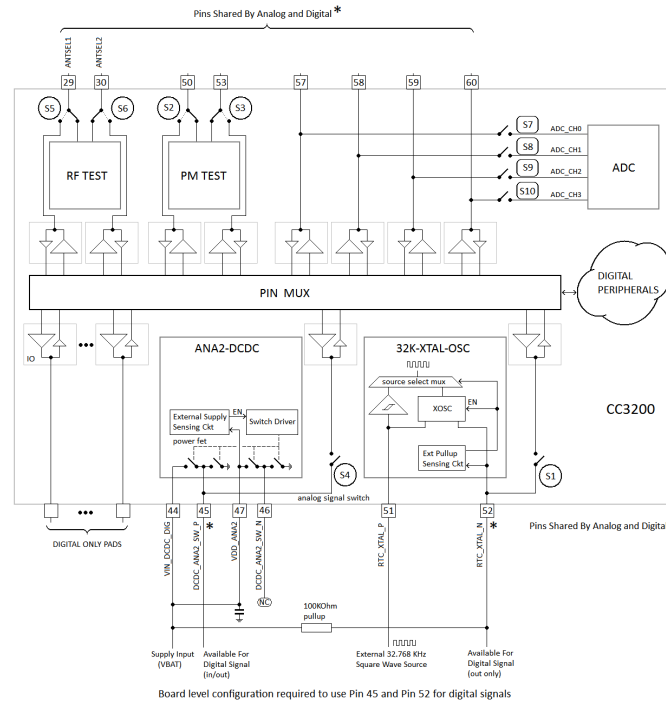

Figure 3-2. Board Configuration to Use Pins 45 and 52 as Digital Signals
- (1) LPDS mode: The state of unused GPIOs in LPDS is input with 500 kΩ pull-down. For all used GPIOs, the user can enable internal pulls, which would hold them in a valid state.
- (2) Hibernate mode: The CC3200 device leaves the digital pins in a Hi-Z state without any internal pulls when the device enters hibernate state. This can cause glitches on output lines unless held at valid levels by external resistors.
- (3) To minimize leakage in some serial flash vendors during LPDS, TI recommends the user application always enable internal weak pull-downs on FLASH\_SPI\_DATA and FLASH\_SPI\_CLK pins.
- (4) This pin has dual functions: as a SOP[2] (device operation mode), and as an external TCXO enable. As a TXCO enable, the pin is an output on power up and driven logic high. During hibernate low-power mode, the pin is in a high impedance state but pulled down for SOP mode to disable TCXO. Because of SOP functionality, the pin must be used as output only.
- (5) Higher leakage current from the onboard serial flash can occur due to floating inputs when the device enters Hibernate mode. See reference schematics for recommended pull-up and pull-down resistors.
- (6) For details on proper use, see Section 3.2, Drive Strength and Reset States for Analog-Digital Multiplexed Pins.
- (7) This pin is one of three that must have a passive pullup or pulldown resistor on board to configure the chip hardware power-up mode. Because of this reason, if this pin is used for digital functions, it must be output only.
- (8) This pin is reserved for WLAN antenna selection, controlling an external RF switch that multiplexes the RF pin of the CC3200 device between two antennas. These pins should not be used for other functionalities in general.
- (9) Device firmware automatically enables the digital path during ROM boot.
- (10) Pin 45 is used by an internal DC-DC (ANA2\_DCDC) and pin 52 is used by the RTC XTAL oscillator. These modules use automatic configuration sensing. Therefore, some board-level configuration is required to use pin 45 and pin 52 as digital pads (see Figure 3-2). Because the CC3200R device does not require ANA2\_DCDC, the pin can always be used for digital functions. However, pin 47 must be shorted to the supply input. Typically, pin 52 is used for RTC XTAL in most applications. However, in some applications a 32.768-kHz square-wave clock might always be available onboard. In such cases, the XTAL can be removed to free up pin 52 for digital functions. The external clock must then be applied at pin 51. For the chip to automatically detect this configuration, a 100K pull-up resistor must be connected between pin 52 and the supply line. To prevent false detection, TI recommends using pin 52 for output-only functions.
- (11) VDD\_FLASH must be shorted to Vsupply.
- (12) To use the digital functions, RTC\_XTAL\_N must be pulled high to Vsupply using 100-KΩ resistor.
- (13) This pin is shared by the ADC inputs and digital I/O pad cells. Important: The ADC inputs are tolerant up to 1.8 V. On the other hand, the digital pads can tolerate up to 3.6 V. Hence, care must be taken to prevent accidental damage to the ADC inputs. TI recommends that the output buffer(s) of the digital I/Os corresponding to the desired ADC channel be disabled first (that is, converted to high-impedance state), and thereafter the respective pass switches (S7, S8, S9, S10) should be enabled (see Section 3.2, Drive Strength and Reset States for Analog-Digital Multiplexed Pins).
- (14) Requires user configuration to enable the ADC channel analog switch. (The switch is off by default.) The digital I/O is always connected and must be made Hi-Z before enabling the ADC switch.